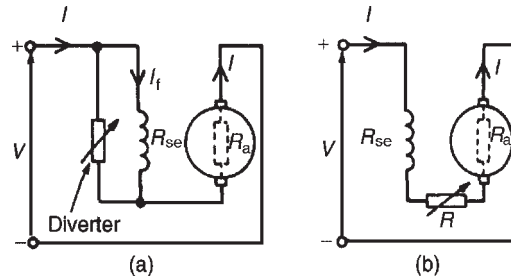

Figure 25.30
hence flux, for a given value of supply current. A circuit diagram of this arrangement is shown in Fig. 25.30(a). A variable resistor connected in parallel with the series-wound field to control speed is called a **diverter**. Speeds above those given with no diverter are obtained by this method. Problem 29 below demonstrates this method.
- (b) Speeds below normal are obtained by connecting a variable resistor in series with the field winding and armature circuit, as shown in Fig. 25.30(b). This effectively increases the value of R in the equation
With the 0.2Ω diverter in parallel with R_{se} (see Fig. 25.30(a)), the equivalent resistance,
$$I_f \text{ (in Fig. 25.30(a))} = \left(\frac{0.2}{0.2 + 0.05} \right) I = 0.8I$$
With reference to Fig. 25.30(b), at 800 rev/min,